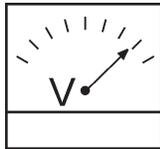

Figure 44. Voltmeter
8. The generator's AC-voltmeter (Figure 44) will display the generator's output in **VOLTS**.